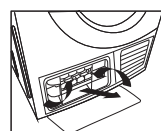

Fig7
4. Pull out the heat exchanger. (Fig7)